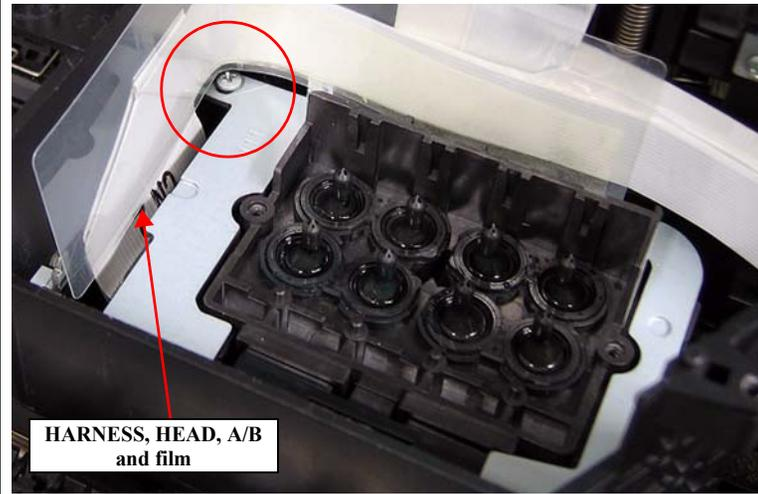

Figure 4-91. Releasing the GUIDE, TUBE, CR
6. Slide the GUIDE, TUBE, CR in the direction of the arrow to release the hooks from the three guide pins on the CARRIAGE, ASSY., and remove it. *See Figure 4-91.*